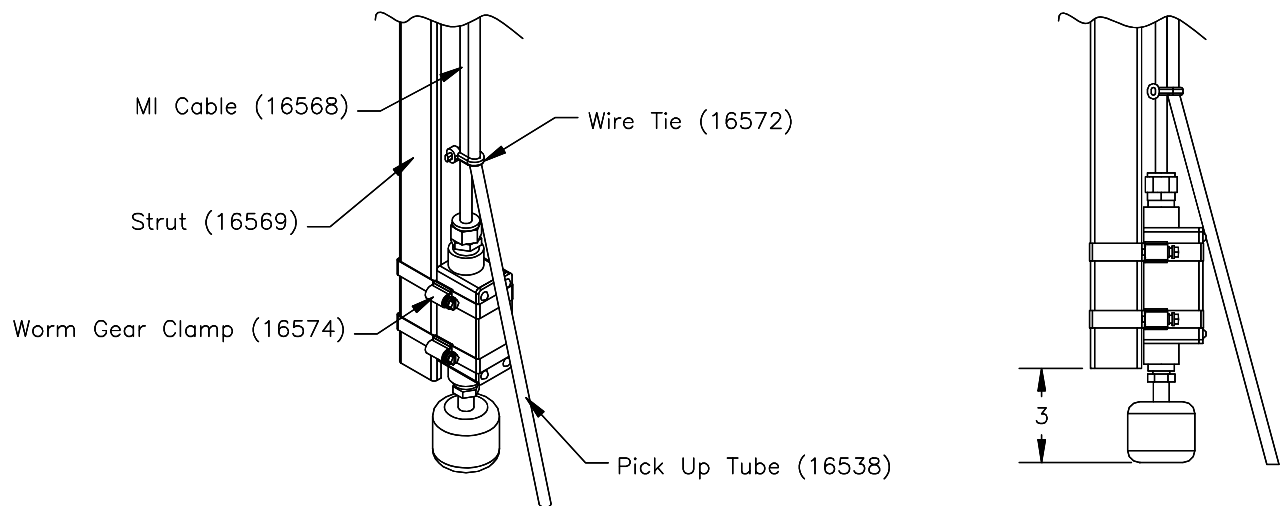

Figure 1
- 3) Attach the MI cable assembly (16568) to the Strut (16569) using the supplied worm gear clamps (16574). The float should be approximately three inches below the bottom of the strut (16569). Refer to Figure 1.
- 4) Locate the Pick Up Tube (16538) and attach to the Strut Assembly from Step 3 beginning at the float switch end. Attach the Pick Up Tube (16538) to the MI Cable using the supplied Wire Ties (16572) as seen in Figure 1 and trim.